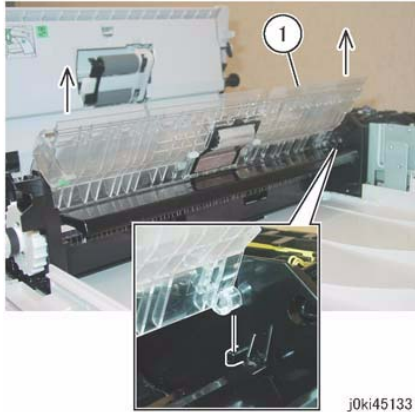

Figure 1 Retard Chute
6. Remove the Retard Chute. (Figure 1)